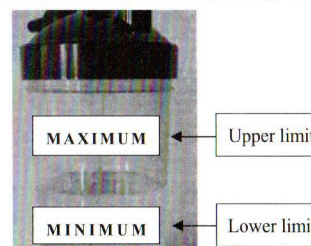

Fig. 3
- a) Add purified water (or distilled water) to the upper and lower limits of the humidification bottle (Fig. 3), and tighten the bottle cap.